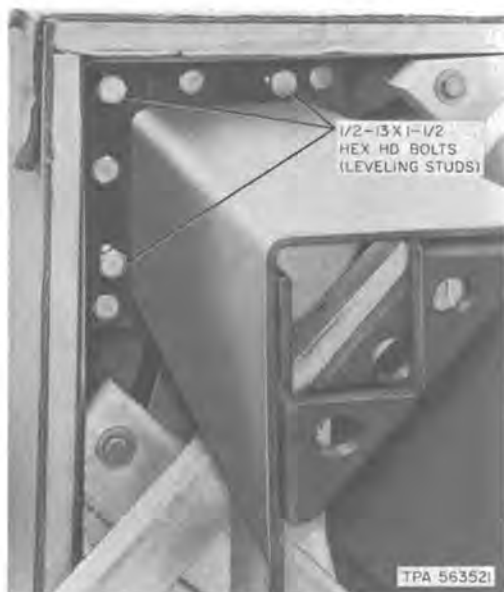

Fig. 20—Leveling Studs Installed
- (5) Insert three additional 1/2-13 by 1-1/2 inch hex head bolts in each leg to serve as leveling studs (Fig. 20).
- (3) Insert these additional 1/2-13 by 1-1/2 inch hex head bolts in each leg to serve as leveling studs (Fig. 20).
- (4) Raise kiosk into position over mounting surface and secure legs to expansion shields